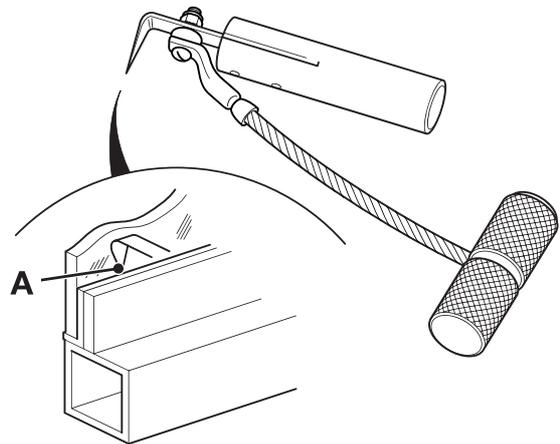

Fig 6. Cut-out Knife
- c Cut-out Knife.** ⇒ Fig 6. \(□ B-29\). The cut-out knife can be used as a left handed or right handed tool.
- ii Make sure that the blade of the knife is against the glass **A**. ⇒ Fig 6. \(□ B-29\).